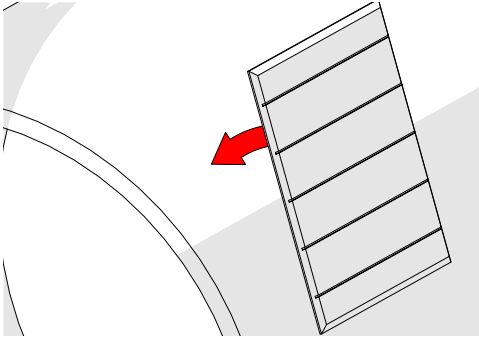

Fig. 156 - Place installation/removal mat
2. Place the installation/removal mat (Fig. 156) on the inspection surface (Fig. 156).